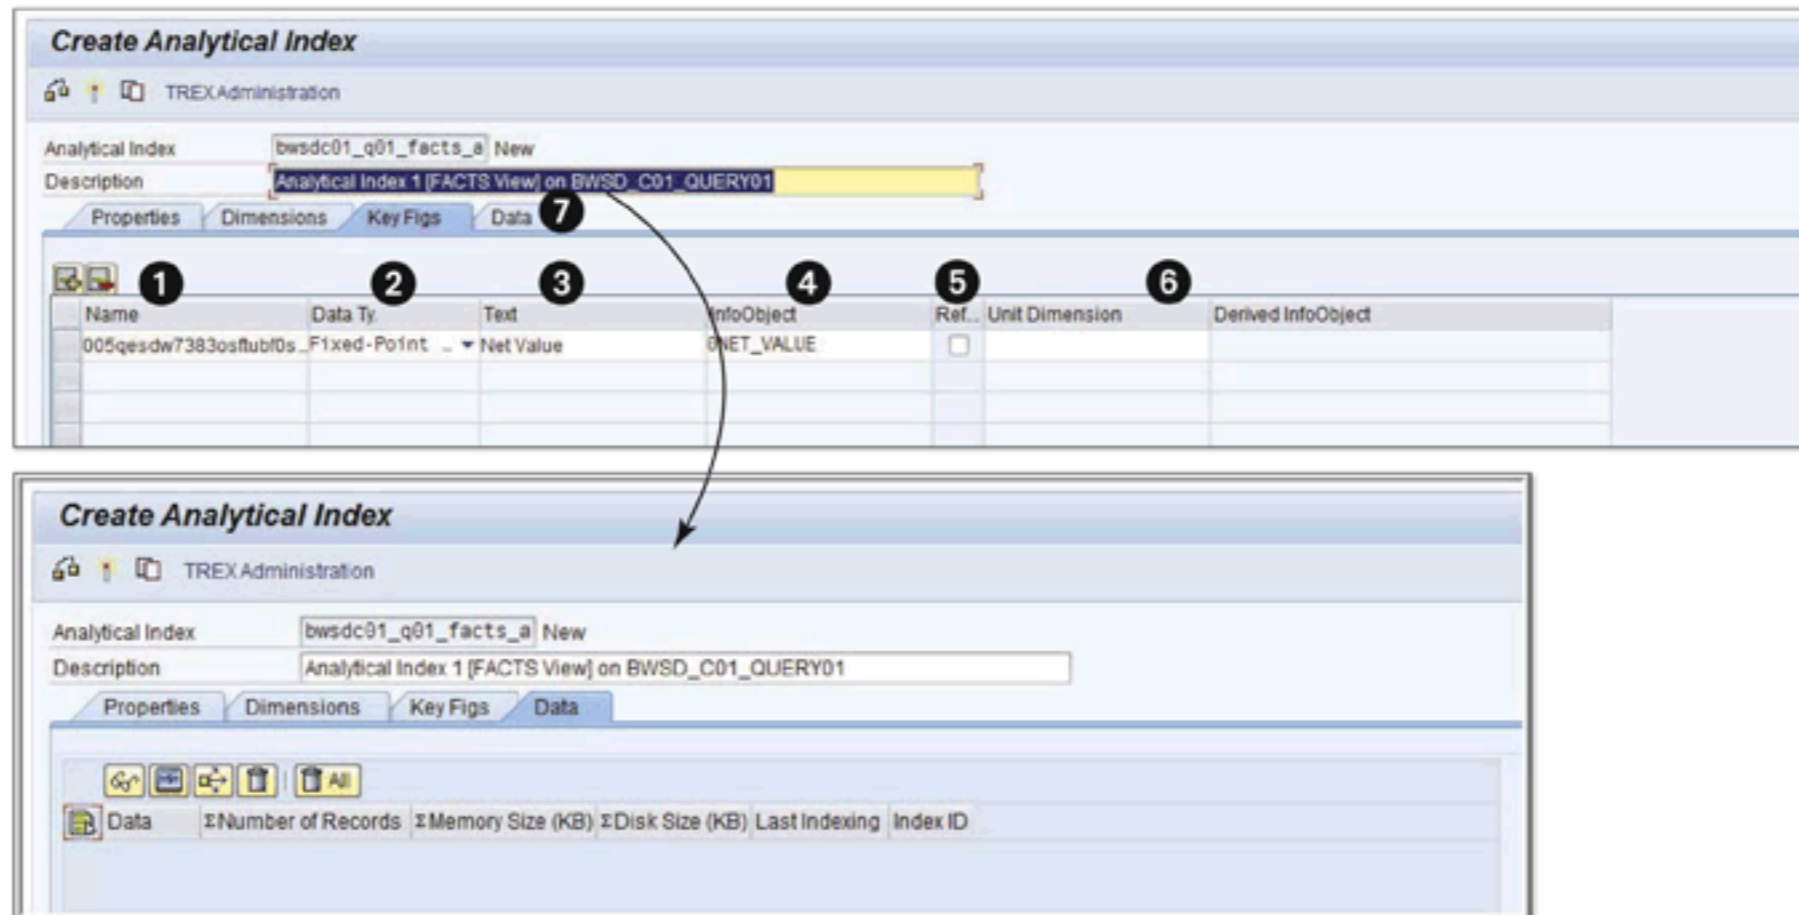

Figure 15.18 Analytical Index: Key Figs and Data Tab
(6) to each element; if this is done, it means that fields are automatically assigned in the APD when connecting the source structure to the target structure. The REFERENCE option (7) is used by the transient InfoObject during OLAP reporting. Set the AUTHORIZATION (8) flag, and the system runs a check when executing and navigating queries on the transient provider to ensure that the user is authorized for all dimension data flowing into the result set. Click on the KEY FIGS tab (9), and the screen shown in Figure 15.18 is displayed.
The structure of the KEY FIGURE from the data source (query BWSD_C01_QUERY01) is shown in Figure 15.18, and the columns (1, 2, 3, 4, and 5) have the same meaning as they do in Figure 15.17. The additional setting is for UNIT DIMENSION (6), which is applicable only for key figures.